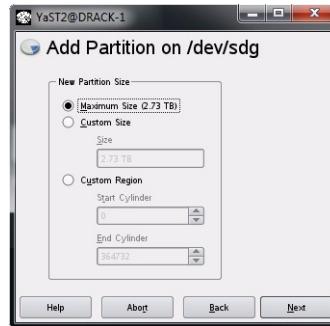

Figure 3-27 YaST2 – Select Partition Size
6. Select the partition size (Figure 3-27) and click **Next**.